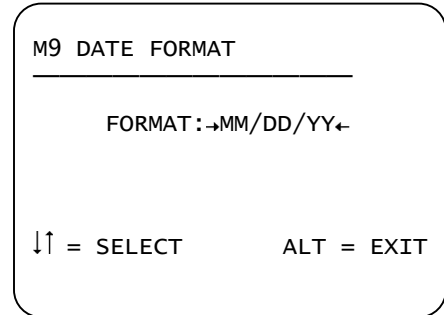

Figure 17. Format Date menu
- 1) Press **3** to advance to the Format Date menu (Figure 17).